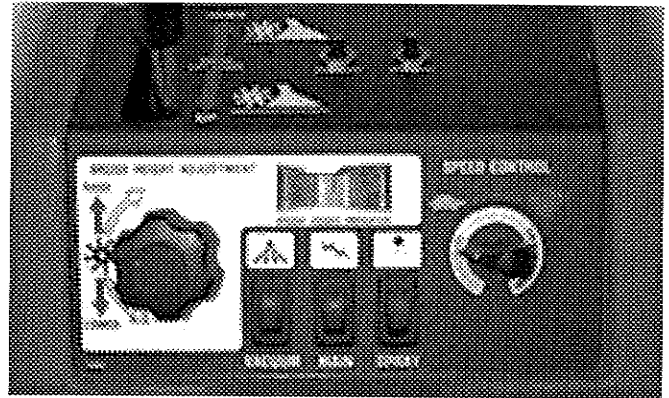

FIG. 5
2. Turn on the MAIN, VACUUM and SPRAY switches. (Figure 5)
3. Rotate SPEED CONTROL knob counterclockwise to the stop position. (Figure 5)